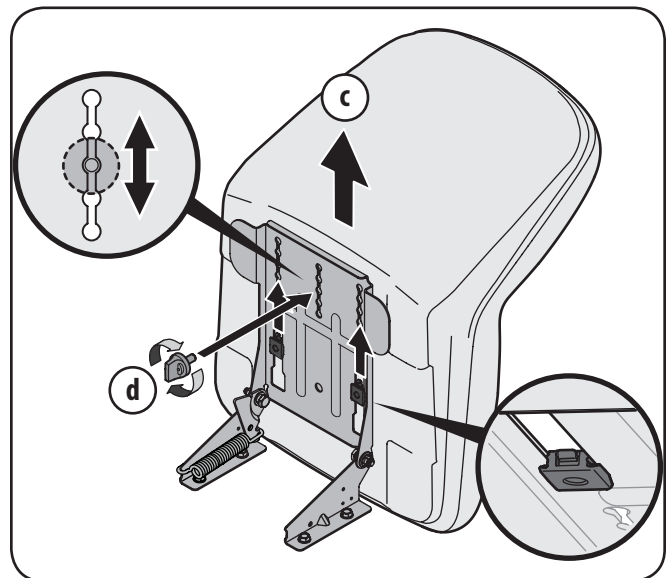

Figure 3-5
3. Slide the seat rearward in the seat pivot bracket (c), lining up the center rear slot in the pivot bracket with the remaining hole in the seat’s base. See Figure 3-5.
**Note:** Be certain the two seat tabs engage the pivot bracket as shown in the bottom inset of Figure 3-5.
4. Select desired position for the seat, and secure with the adjustment knob removed earlier (d in Figure 3-5).
5. To adjust the position of the seat, remove the adjustment knob on the bottom of the seat. Slide the seat forward or backward as desired. Reinstall the adjustment knob. See Figure 3-5.